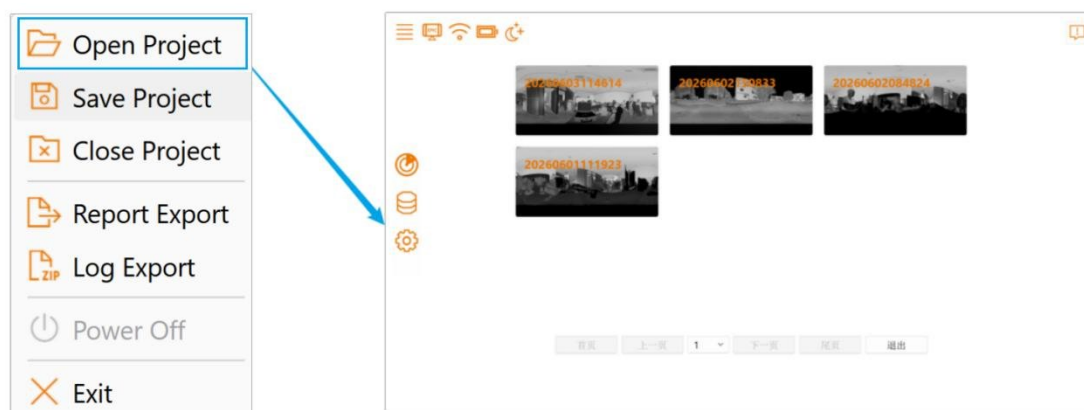

Figure 4-3 Project Management
① **Open Project:** Open an existing project for review, editing, or additional scanning, as shown in Figure 4-3. Real-time projects are stored locally on the control tablet. Projects cannot be accessed from a different control device.